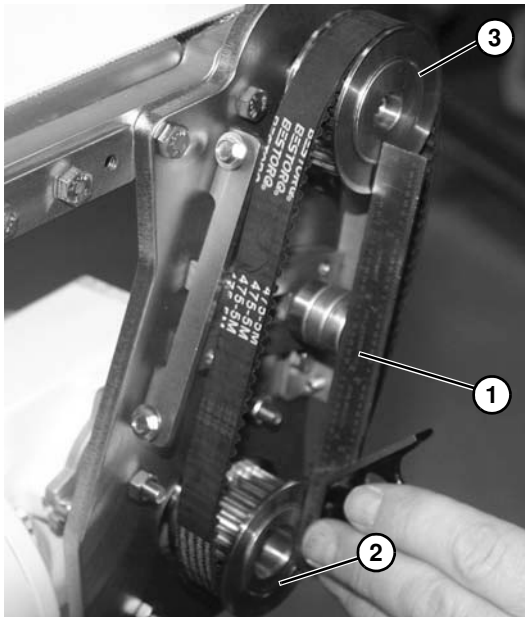

Figure 34
Using a straight edge (**Figure 34, item 1**), make sure drive sprocket (**Figure 34, item 2**) aligns with driven sprocket (**Figure 34, item 3**). Tighten drive and driven sprocket set screws.